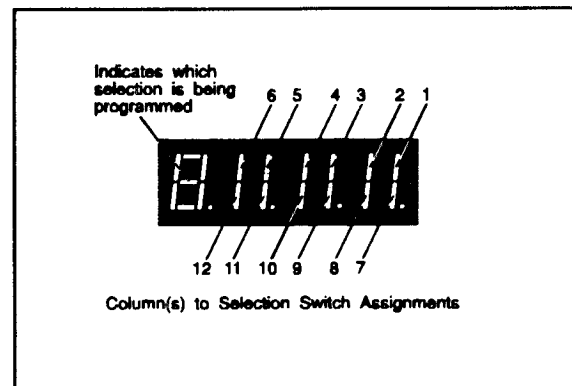

Figure 5.15
(See Figure 5.15)
4. Press any selection switch. The left-most digit of the display will show that selection's number. The lighted vertical segments of the right three digits will show the columns assigned to that selection. (See Figure 5.15)